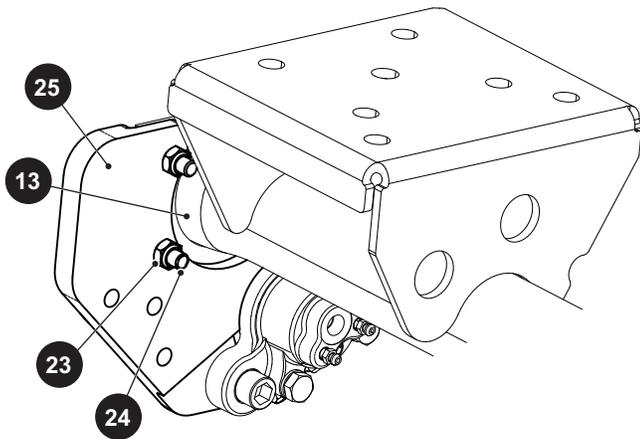

Fig. 3 Caliper Mounting Bracket
7. Remove the nuts (23) and bolts (24) that secure the brake caliper mounting bracket (25) to the rear axle (13) (Ref. Fig. 3).